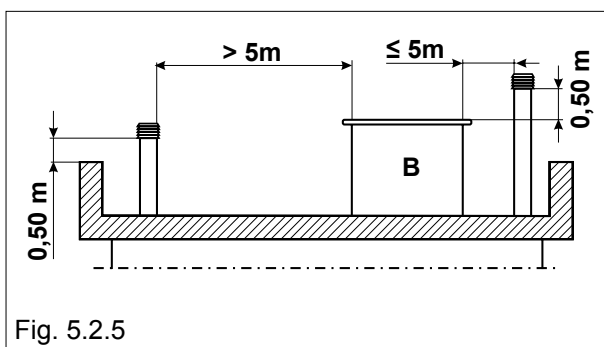

Fig. 5.2.5
Legenda Fig. 5.2.5:
- the data in the table of the UNI 10683/98 rules regarding distances and positioning of chimney tops are given in Figs.5.2.5 and 5.2.6.
Legend fig. 5.2.5:
Zeichenerklärung Abb. 5.2.5: